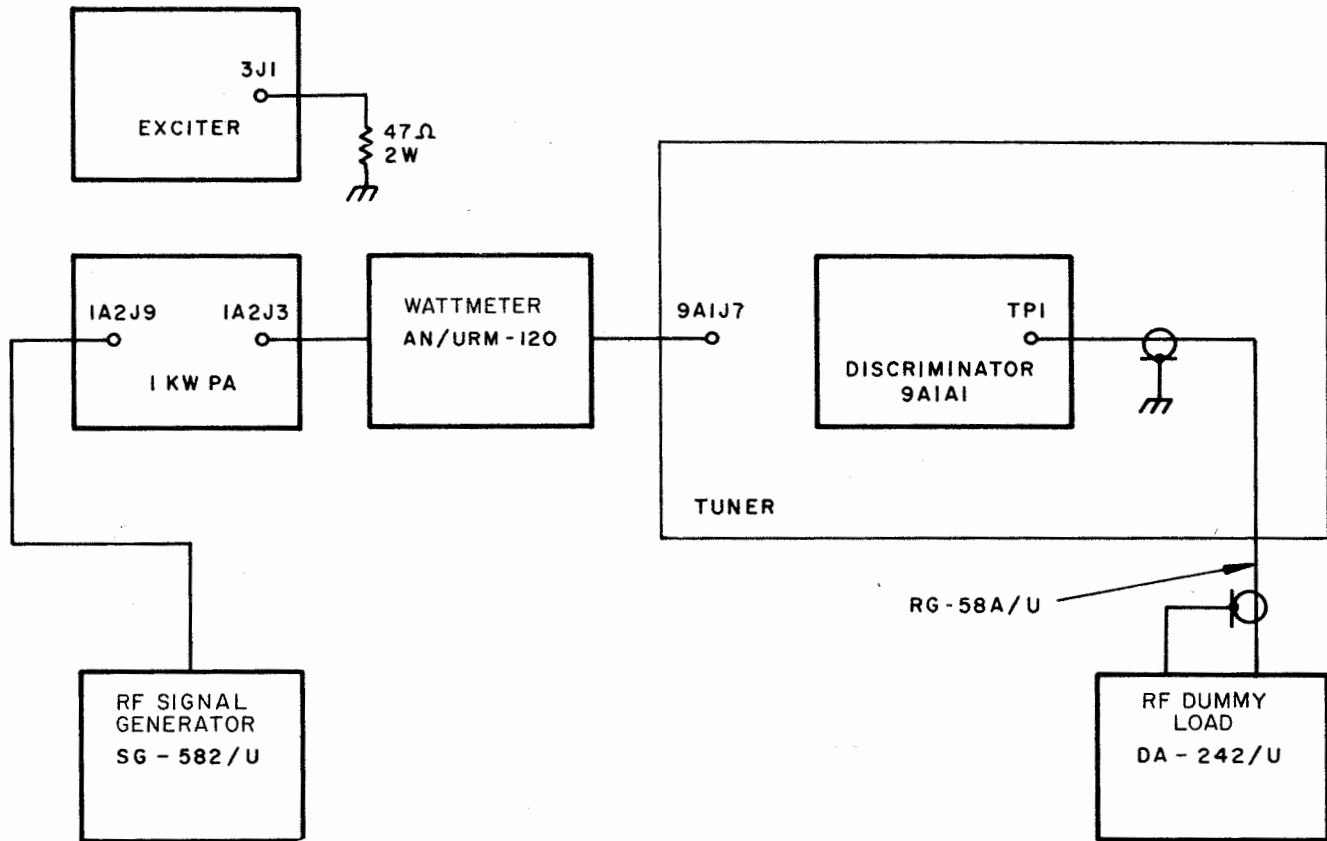

Figure 5-4. Tuner Discriminator Alignment Setup
e. Disconnect RF cable 8W9 at Exciter RF OUT connector 3J1 (figure 5-4), and connect 47 ohm, 2W resistor or other suitable dummy load to 3J1.
k. Connect UG-536B end of test cable to DA-242/U as shown in figure 5-4.
1. Connect RF cables from 1A2J3 on the 1 KW PA through the AN/URM-120 to 9A1J7 on the Tuner as shown in figure 5-4.
y. Disconnect all test connections except AN/URM-120, and reconnect cables at 3J1 and 1A2J9 (figure 5-4) and connect transmitter RF output to antenna system (or DA-242/U if broadband 2-30 MC antenna is not in use).
ad. Remove AN/URM-120 and reconnect cables to 1A2J3 and 9A1J7 (figure 5-4).